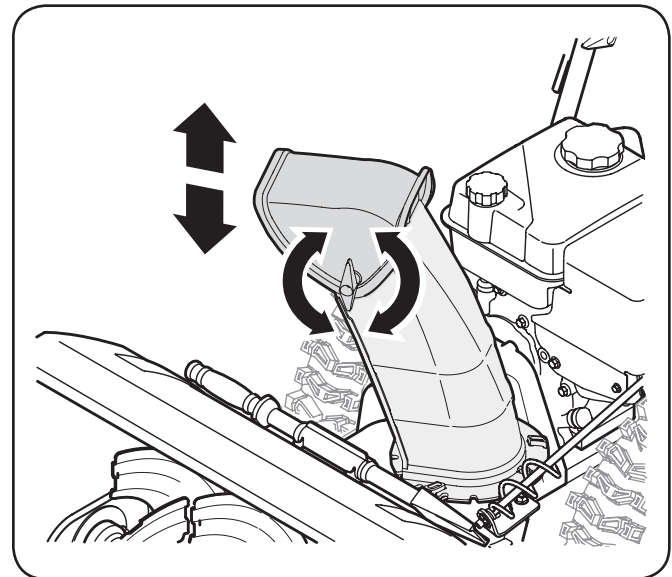

Figure 3-17
2. Pivot the chute upward or downward before retightening the wing knob. See Figure 3-17.